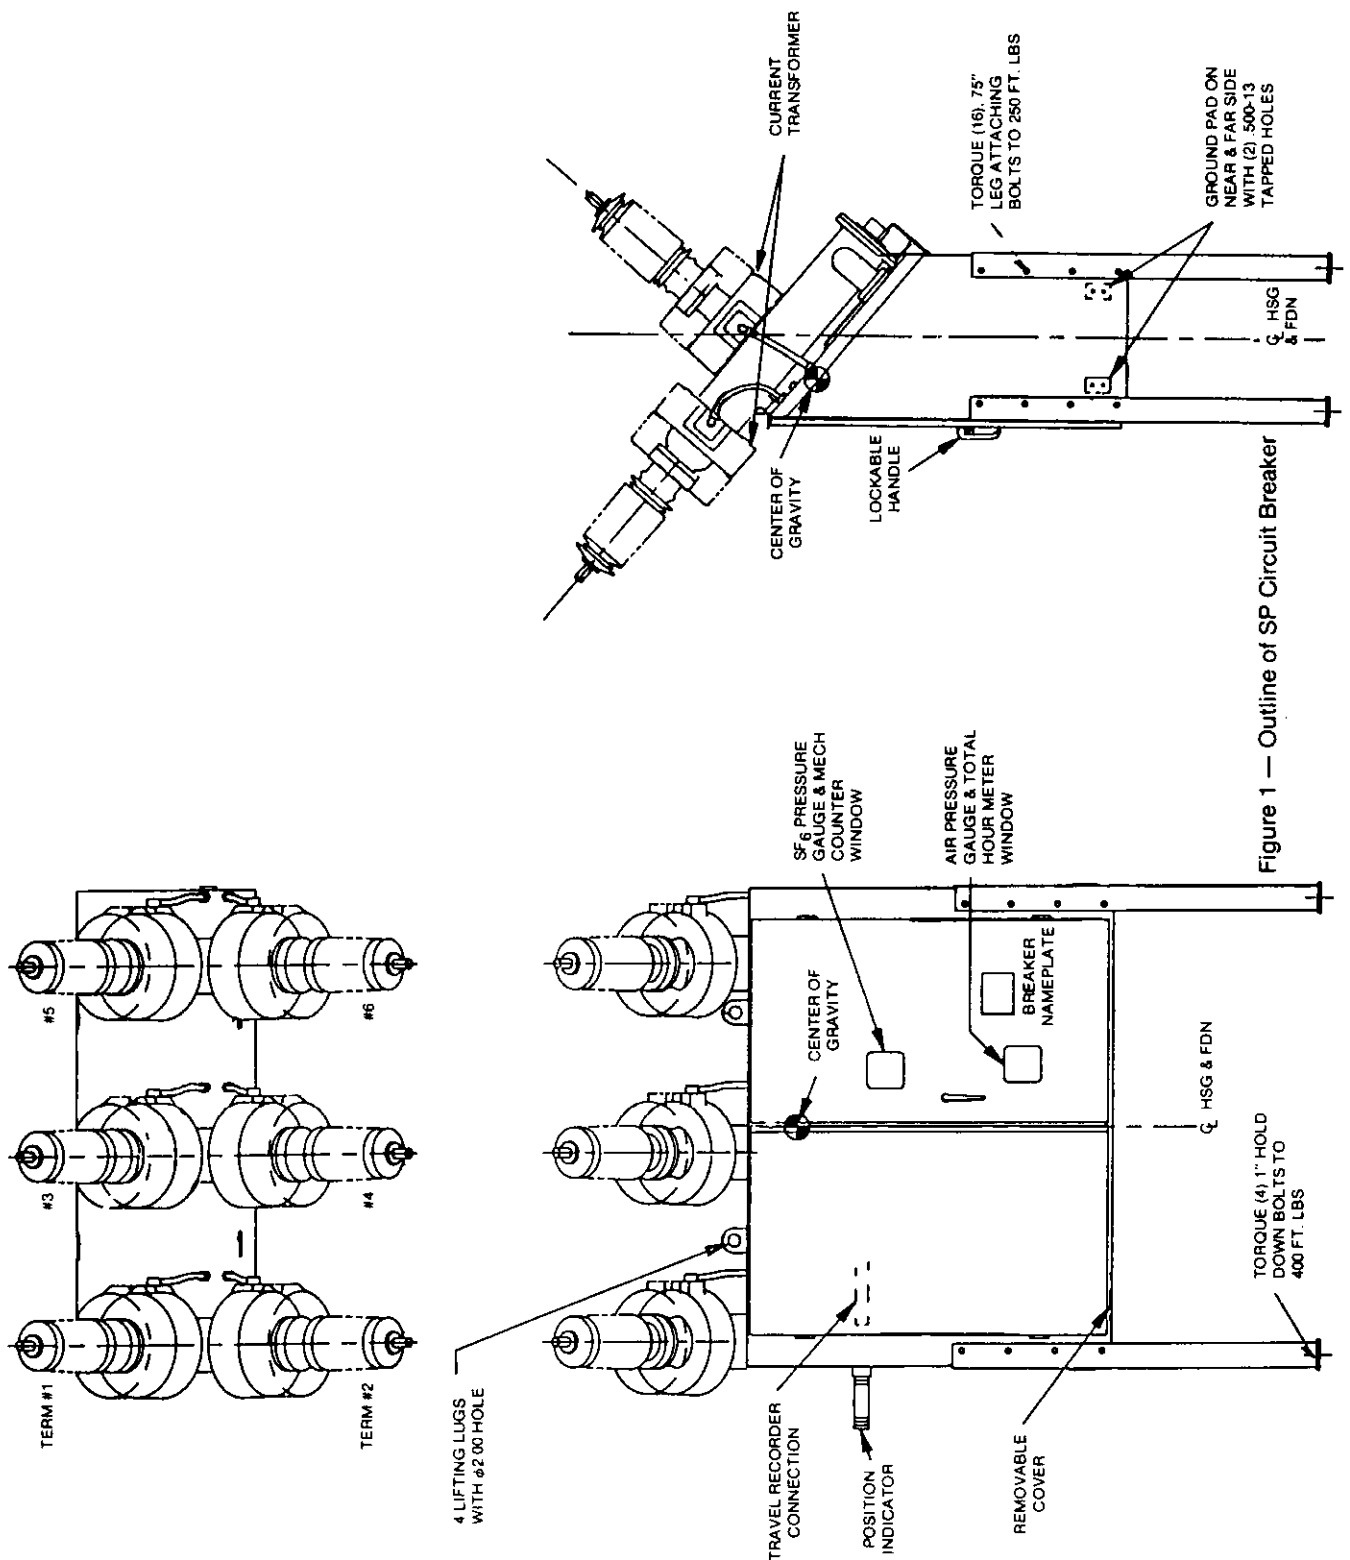

Figure 1 — Outline of SP Circuit Breaker
- f. G.E. Versalube (W962028) is applied to the close control valve poppet sets and piston ring. These normally require no relubrication. See Figures 1 and 2, pages 124 and 125.